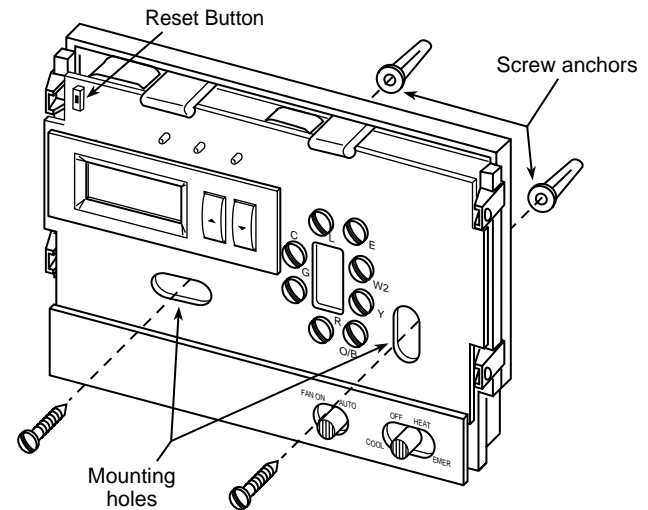

Figure 2. Thermostat base
8. Fasten base loosely to wall, as shown in fig. 2, using two mounting screws. Place a level against bottom of base, adjust until level, and then tighten screws. (Leveling is for appearance only and will not affect thermostat operation.) If you are using existing mounting holes, or if holes drilled are too large and do not allow you to tighten base snugly, use plastic screw anchors to secure subbase.
- **RESET BUTTON** - (see fig. 2) resets the thermostat to the factory setting. This button can be used to reset the thermostat if it has been subjected to a voltage spike and has become scrambled or frozen.